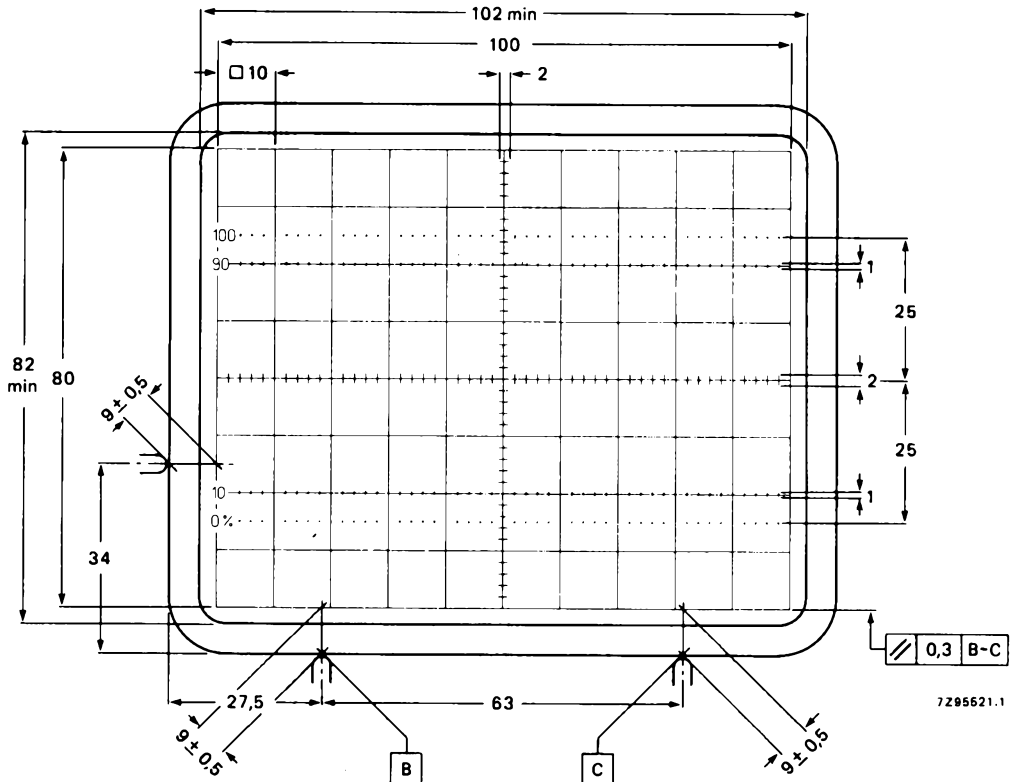

Fig. 4 Front view of tube with internal graticule, type 123. The faceplate reference points are used for aligning the graticule with the faceplate.
4. Reference points on faceplate for graticule alignment (see Fig. 4).